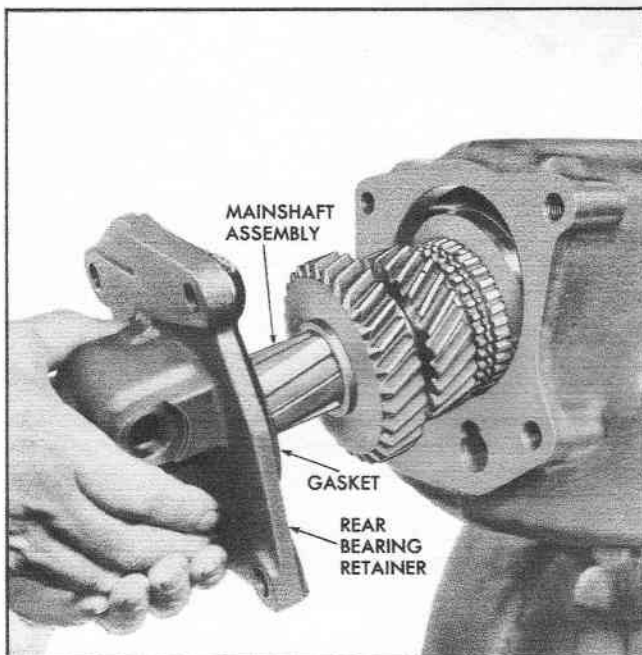

Fig. 10 Removing or Replacing Rear Bearing Retainer and Mainshaft Assembly
11. Drop countershaft gear down in transmission case, then remove rear bearing retainer, gasket, and mainshaft assembly from transmission case as shown in Fig. 10.
9. Place 14 roller bearings in bore in rear end of main drive gear (Fig. 11). Coat bearings with lubricant to hold in place. Place rear bearing retainer gasket on rear end of case. Carefully install mainshaft and gears assembly through opening in rear of case (Fig. 10) making sure